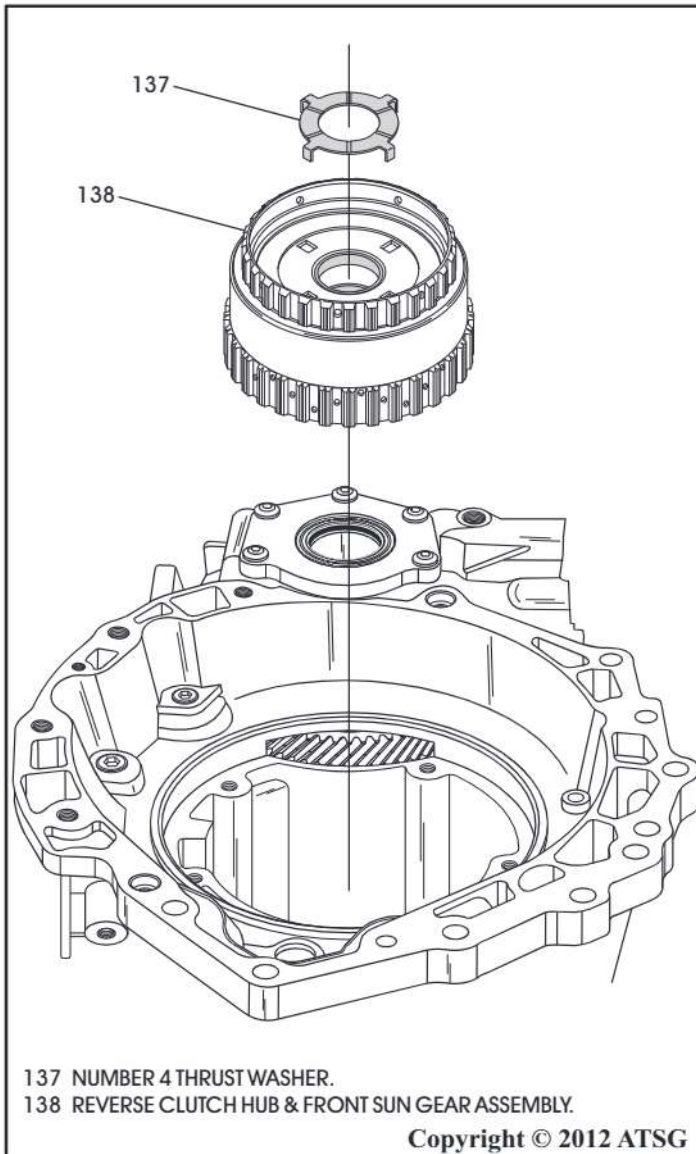

Figure 65
46. Remove the number 4 thrust washer and reverse clutch hub & front sun gear assembly, as shown in Figure 65.